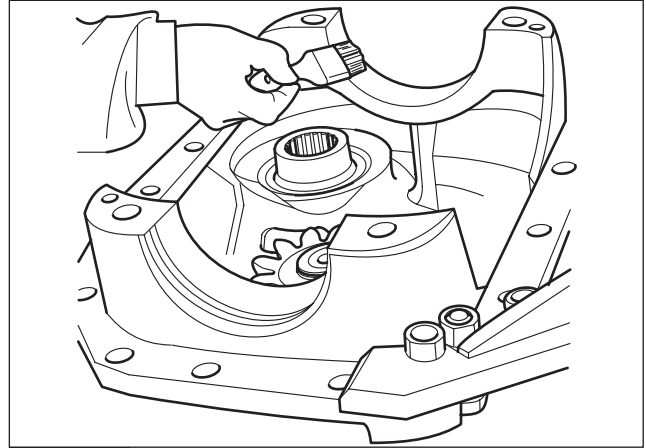

Fig. 2.78
1. Lubricate the bearing seats with oil. (Fig. 2.78)